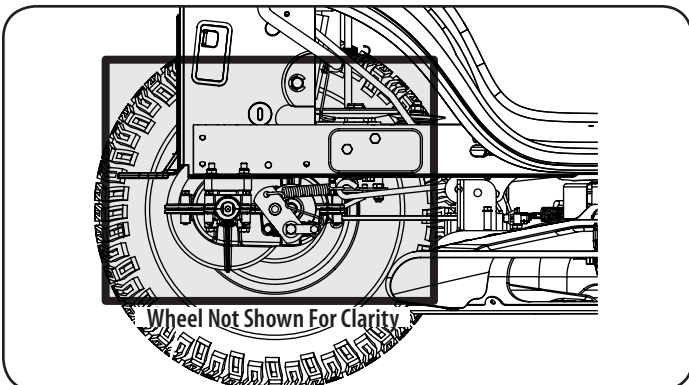

Figure 4
- Clean around and near the transmission, axle and the fan area. See Figure 4.